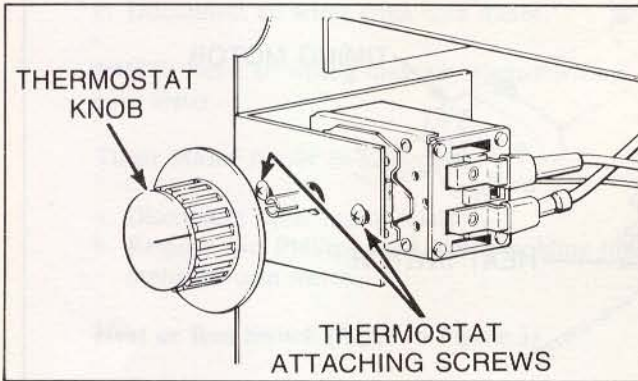

Figure 6
- c. Pull thermostat knob off thermostat shaft, *Figure 6*.
- e. Remove two Phillips head screws holding thermostat to mounting bracket, *Figure 6*.